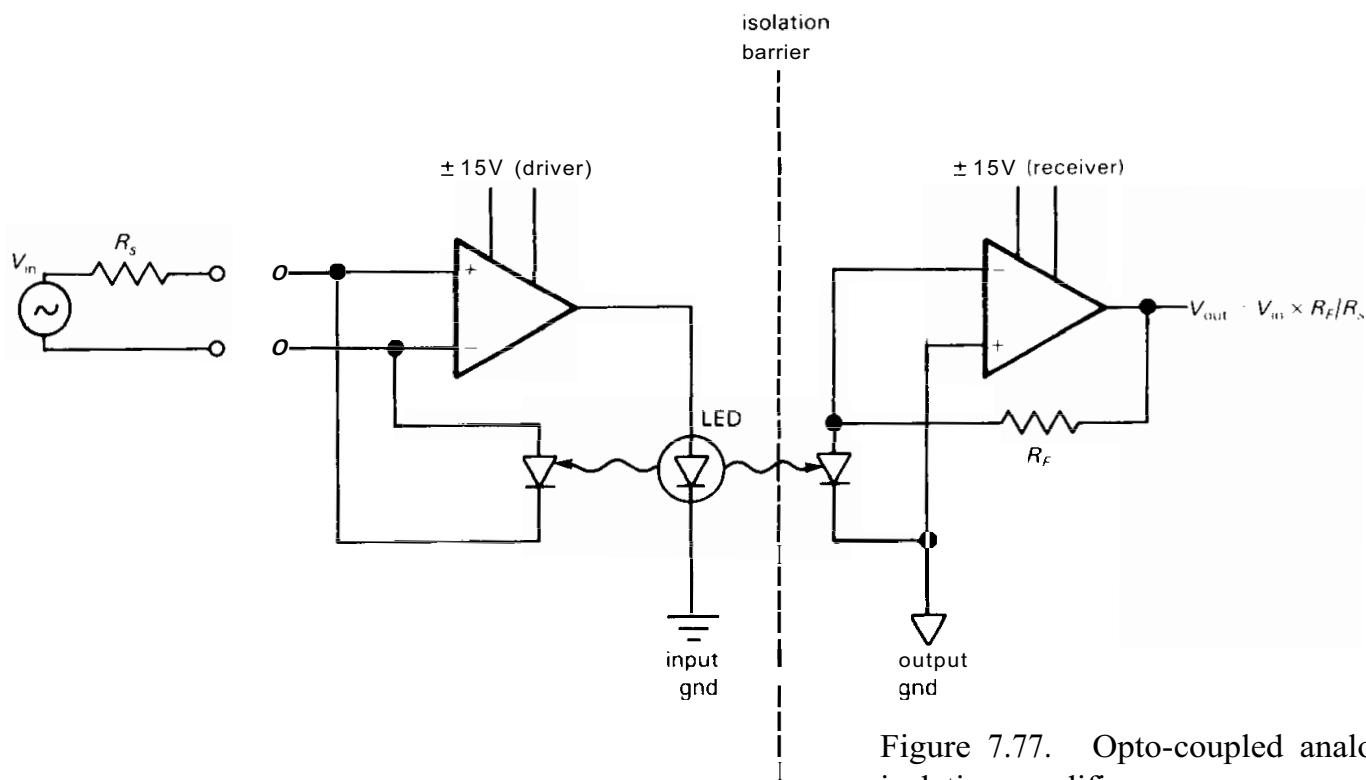

Figure 7.77. Opto-coupled analog isolation amplifier.
**2.** Optically coupled signal transmission via an LED at the sending end and photodiode at the receiving end. This technique is typified by the ISO100 from Burr-Brown. No high-frequency carrier is needed, since signals all the way to dc can be transmitted optically. However, to achieve good linearity, Burr-Brown uses a cute trick: A second matched photodiode at the transmitting side receives light from the LED, in a feedback arrangement that cancels nonlinearities in both LED and photodiode; see Figure 7.77. The ISO100 requires power supplies at both ends, isolates to 750 volts, and has 60kHz bandwidth.